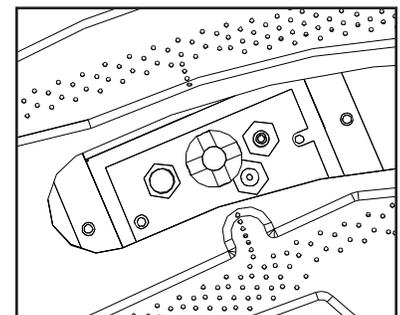

Figure 12: Burner to pilot hood relationship.
8. Reinstall the burner, brick panels, log set, embers, and glass door. Also refer to SECONDARY INSTALLATION - INSTALLING LOG SET AND EMBERS. When re-installing the burner, ensure that the burner to pilot hood relationship is similar to what is shown in Figure 12. On some units you will need to pay special attention when installing the burner that the venturi adjustment rod is properly installed into the venturi adjustment piece welded to the burner venturi tube